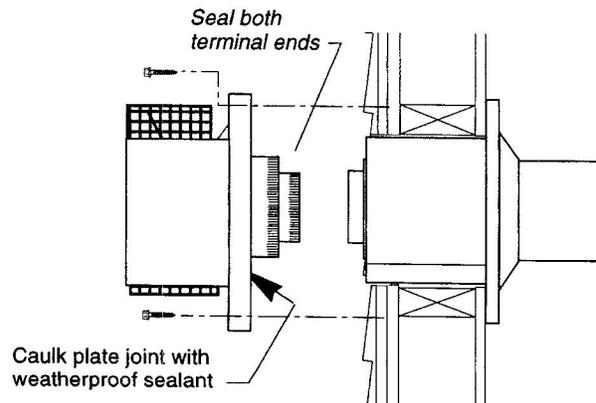

Figure 37. Install the vent terminal.
10. Install the vent terminal. Fig. 37. Apply high temperature sealant one inch from the ends of the inner and outer collars. Guide the inner and outer vent termination collars into the adjacent pipes. Double check that the vent pipes overlap the collars by 2". Secure the termination to the wall with the screws provided and caulk the joint with weatherproof sealant.